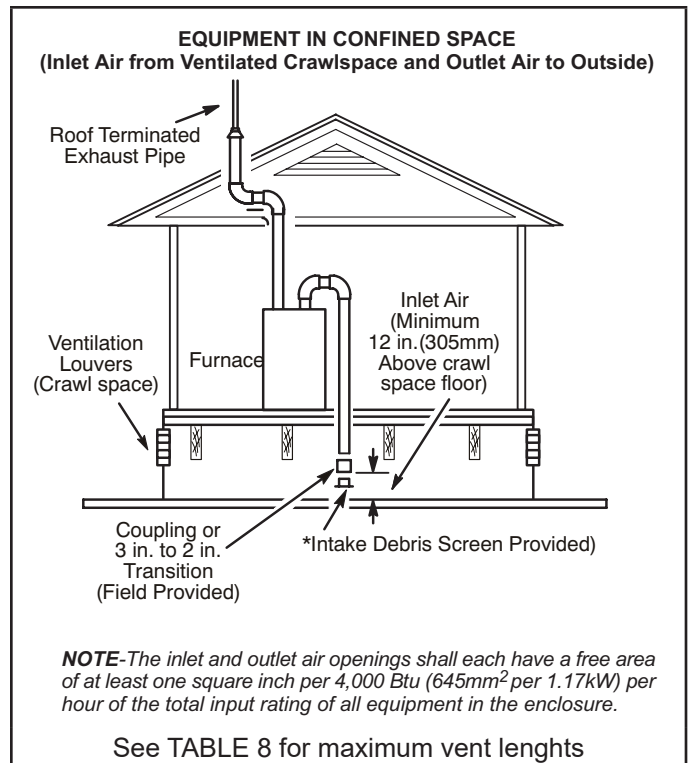

FIGURE 31
- 2 - If intake air is drawn from a ventilated crawlspace (FIGURE 31) or ventilated attic (FIGURE 32) the exhaust vent length must not exceed those listed in table 9. If 3" diameter pipe is used, reduce to 2" diameter pipe to accommodate the debris screen.